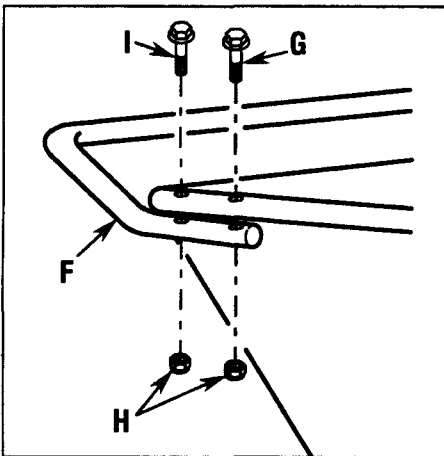

Figure 2-3: Attach the handle.
1. Using two 7/16" wrenches, remove the handle (F, Figure 2-3) and discard the screws and nuts. Turn the handle over and position it as shown in Figure 2-3. The bend in the handle must face upward as shown.
2. Insert one 1/4"-20 x 1-1/4" flange head screw (G, Figure 2-3) down through the forward holes in the shredder hopper and handlebar. Loosely add one 1/4"-20 toplock nut (H). Repeat on the other side.
3. Install the remaining two screws (I) and nuts (H). Tighten all four screws and nuts with 3/8" and 7/16" wrenches.